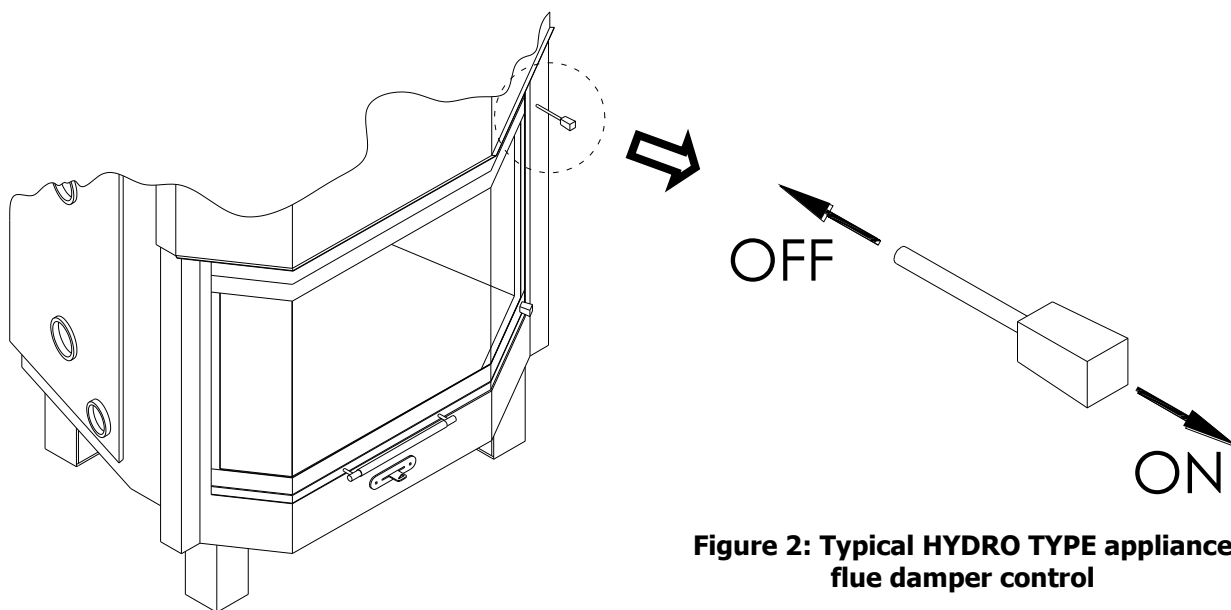

Figure 2: Typical HYDRO TYPE appliance flue damper control
- Push the flue damper control to the closed position (see Figure 2).